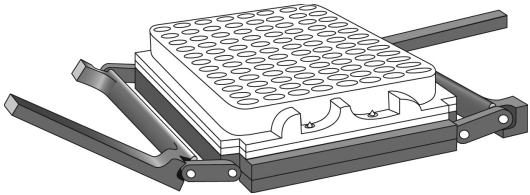

Fig. 2. The ProteinChip cassette-compatible bioprocessor with its legs extended flat on the benchtop.
2. Extend the leg assembly so that the legs are parallel with the body of the base clamp assembly, and lay the bioprocessor flat on the benchtop (see Figure 2).